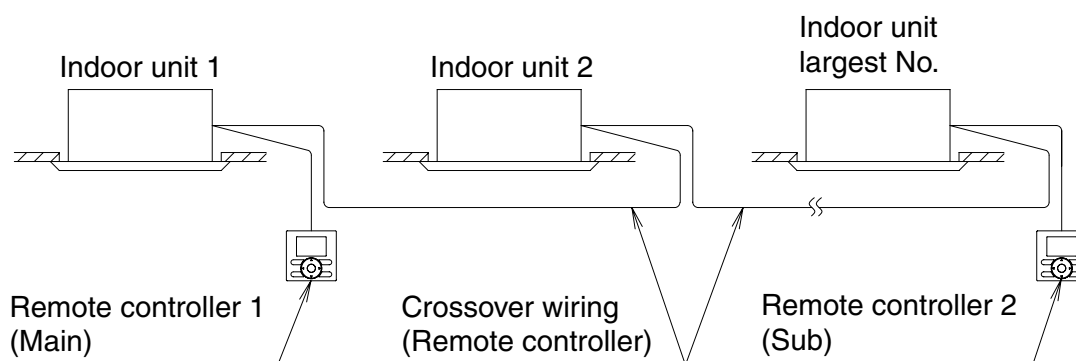

Fig. 20
- When using the group control and the 2 remote controllers control at the same time, connect the remote controller 2 (Sub) to the indoor unit at the end of the crossover wiring (the largest No.). **(Refer to Fig. 20)**